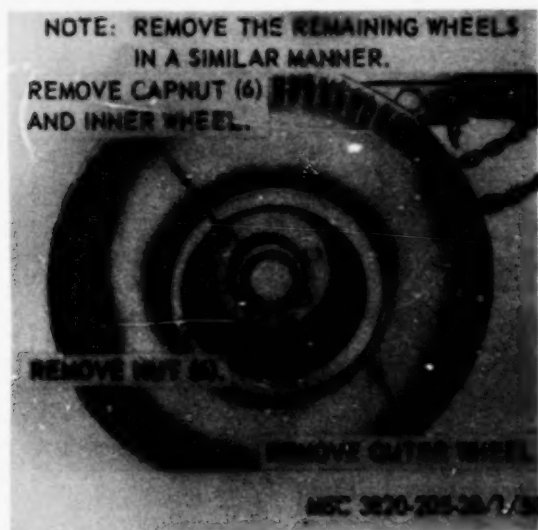

Figure 56. Dolly wheels, removal and installation.
a. Removal. Remove the dolly wheels from the dolly as instructed on figure 56.
- (1) Clean studs and nuts with an approved cleaning solvent and dry thoroughly.
- (2) Clean hub, wheel faces, and nut cavities of all paint and preservation before installation.